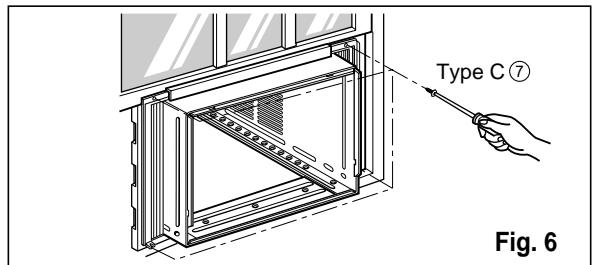

Fig. 6
9. Attach each Frame curtain to the window sash using screws ⑦ (Type C). (See Fig. 6)